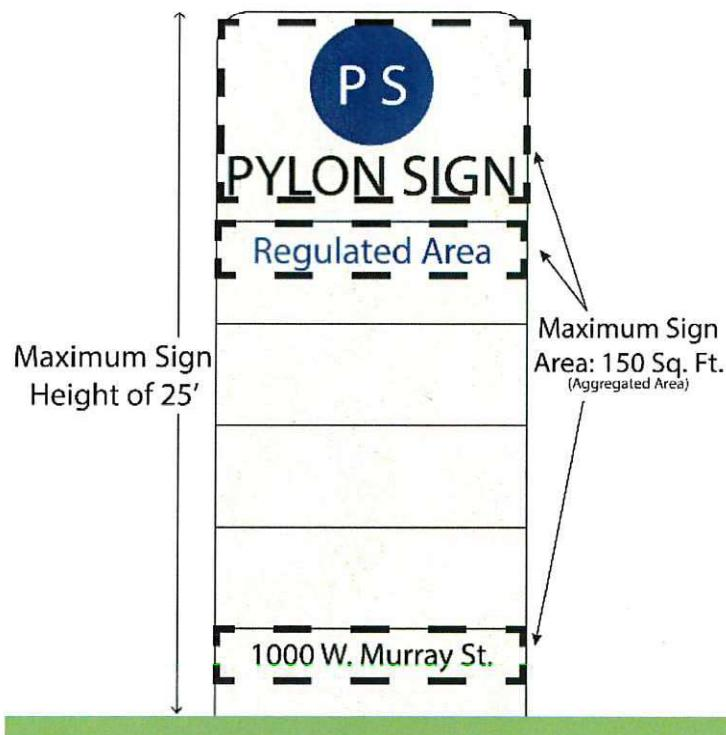

Figure 5
f. The regulated area of a pylon sign shall include all parts of the sign or structure that contain identification (words or symbols) and information (*See Figure 5*).